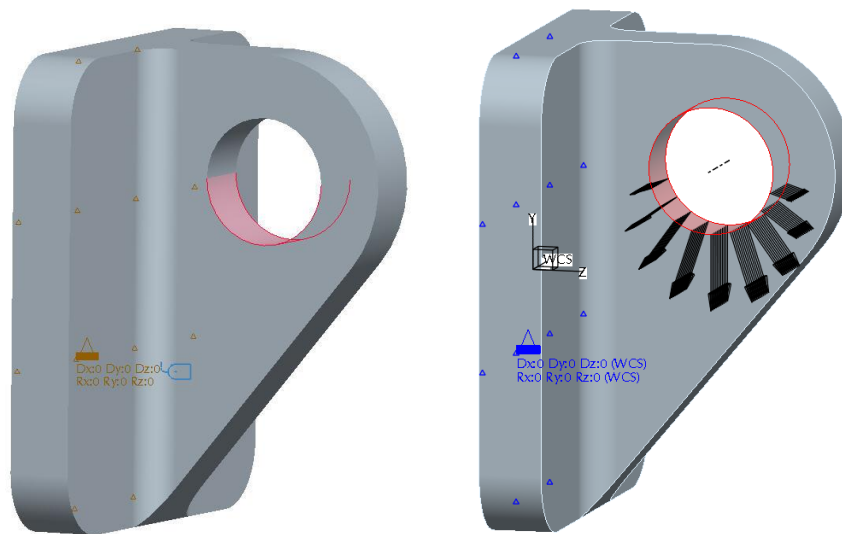

Figure 16 – Load Surface
- Next define the load on the bracket. **Loads > Bearing** or pick the  icon to apply a load over a surface. In the Bearing Load dialog pick the surface highlighted in Figure 16. Type a value of **-10 000** in the **Y** field below Force. Press **Preview** – the arrows should point the same way as in Figure 16. Click **OK** in the Bearing Load dialog to finish.